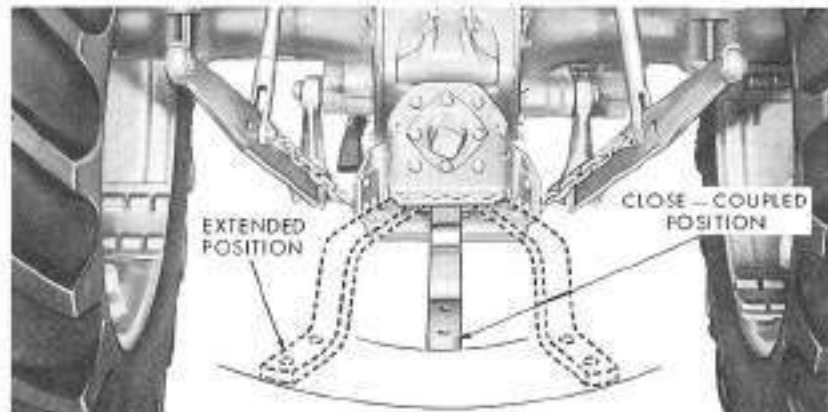

Figure 15
***Swinging Drawbar:** The swinging drawbar provided as standard equipment on your Ford Tractor, permits quick, easy attachment of pull type implements. The tractor can be operated with the swinging drawbar in either the "close-coupled" or "extended" positions (see Figure 15). The drawbar may also be set and used in different positions either to the left or right of center (seven in all). When operating with P.T.O. driven equipment, the drawbar should always be in the "extended" position with the offset down.